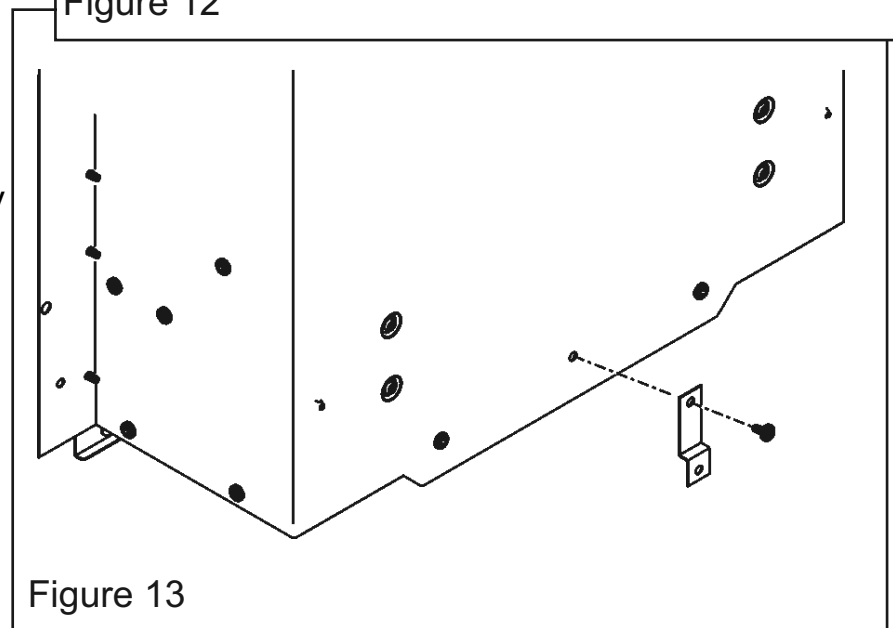

Figure 13
3. Secure the lower bracket to the rear of the heater using one of the No.8 x 3/8 screws supplied (See figure 13).